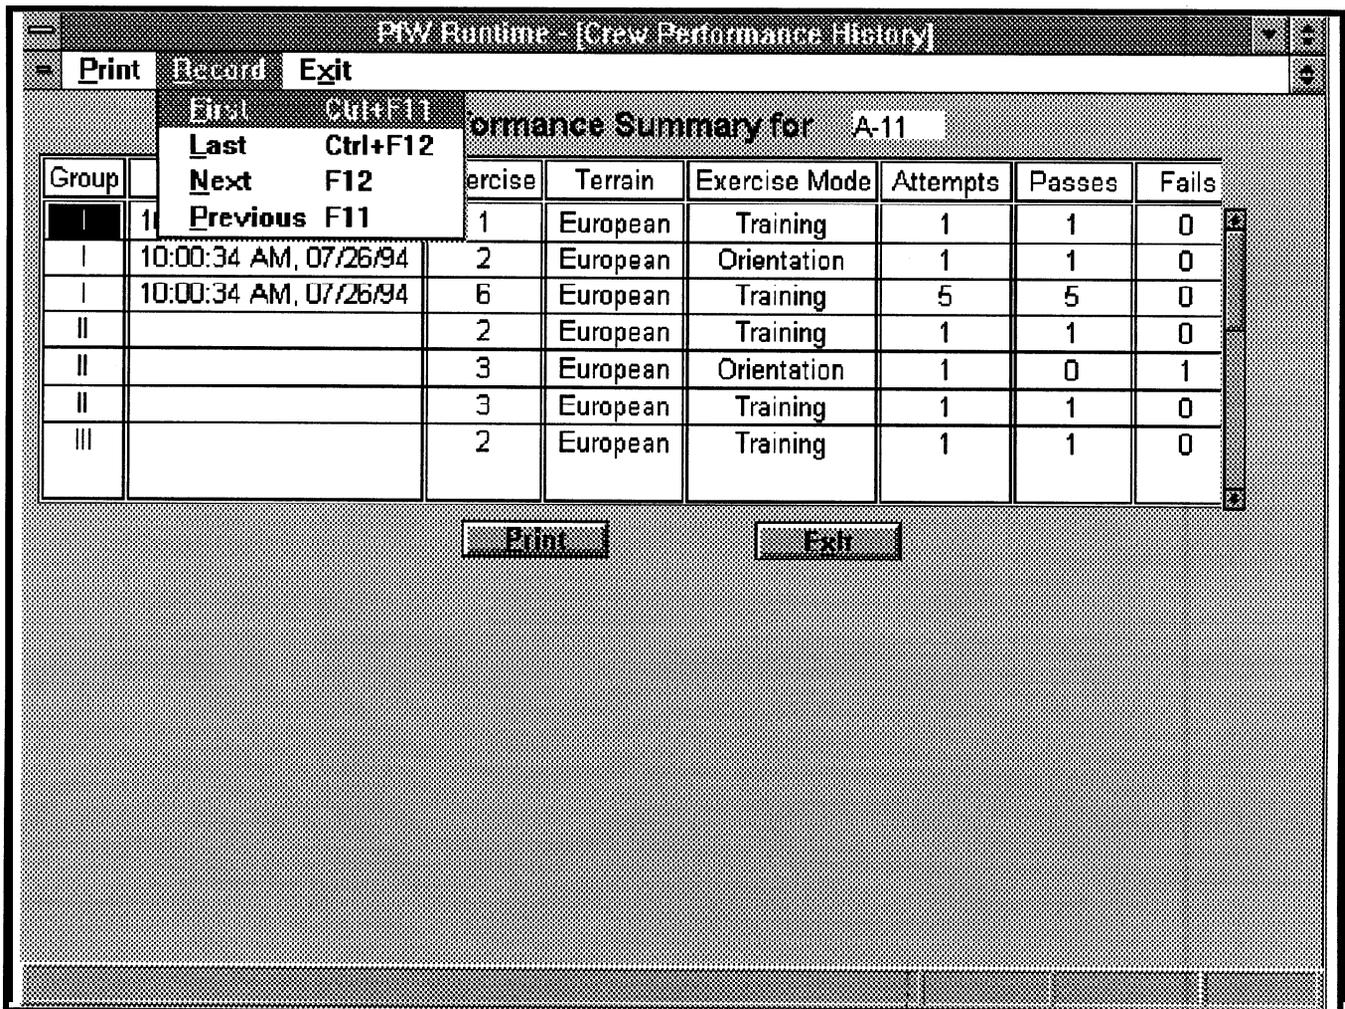

Figure 2-123. Crew Performance History Screen
- a. At the Select Crew for Report Screen, click on the Select button or select Select from the Menu Bar. The Crew Performance History Screen, Figure 2-123, displays with the following data for the selected crew:
- (1) Crew Performance Summary for. Displays the crew identification number of the selected crew.
- (2) Croup. Displays the group number of the exercises that the crew has conducted. The displayed values are I, II, III, IV, V, VIA, or VIB.
- (5) Terrain. Displays the terrain database which was used for each exercise. The displayed values are Desert or European.
- (6) Exercise Mode. Displays the mode in which each exercise was conducted. The displayed values are Orientation, Training, or Evaluation.
- (7) Attempts. Displays the number of times the crew has run this exercise, including the times not run to completion. The displayed values are numeric.